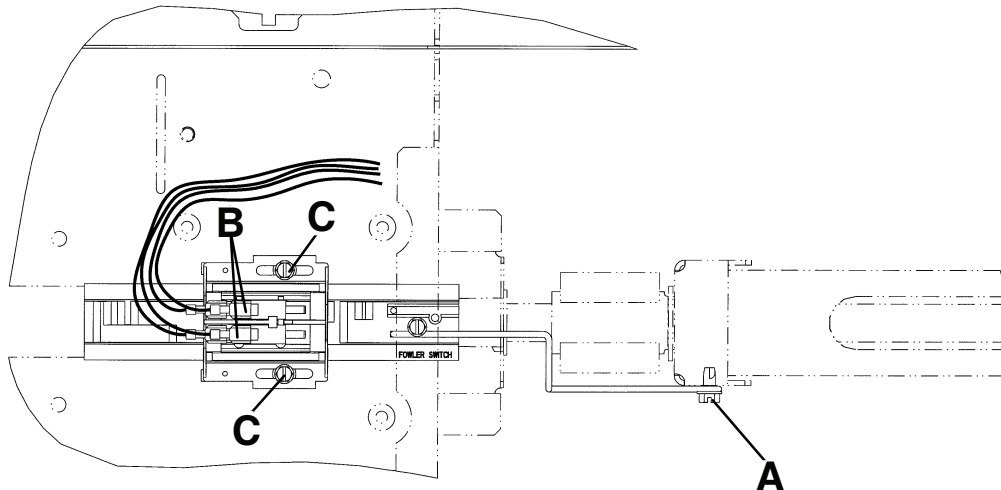

Figure 14 – Cam and cam guide replacement
5. Using a 5/16" nut driver, remove the screw (A) that secures the cam retention wire to the ball nut assembly (Figure 14).
6. Disconnect the cables (B) from the micro-switches. Take note of the cable locations to make sure that the cables are connected to the replacement cam during reinstallation (Figure 14).
7. Using a 5/16" nut driver, remove the two screws (C) that secure the cam and cam guide to the support bracket. Remove the cam and cam guide with the attached micro-switches from the product (Figure 14).